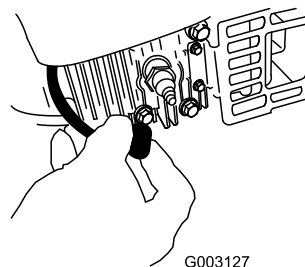

Figure 37
2. Disconnect the spark plug wire from the spark plug (Figure 37) before performing any maintenance procedure.